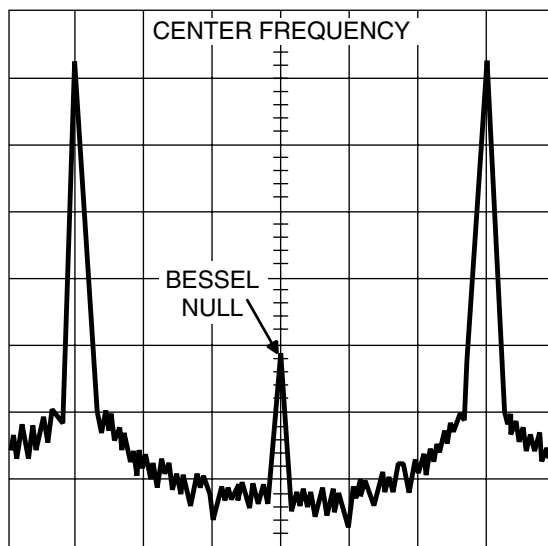

Figure 4-16. Typical Spectrum Analyzer Display of Bessel Null on Φ M Waveform
- e. While observing the first Bessel null (Figure 4-16) on the Spectrum Analyzer display, adjust the value of the DAC's setting to reduce the carrier level as low as possible.
- While observing the first Bessel null (Figure 4-16) on the Spectrum Analyzer display, adjust the value of the DAC's setting to reduce the carrier level as low as possible.
- d. While observing the first Bessel null (Figure 4-16) on the Spectrum Analyzer display, adjust the value of the DAC's setting to reduce the carrier level as low as possible.